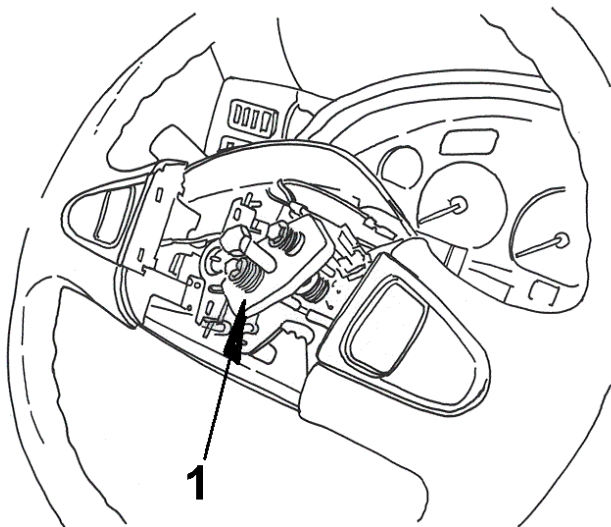

Figure 73 Utilizing Wheel Puller to Remove Steering Wheel
2. Use a wheel puller (Figure 73, Item 1) to loosen steering wheel from shaft spindle.